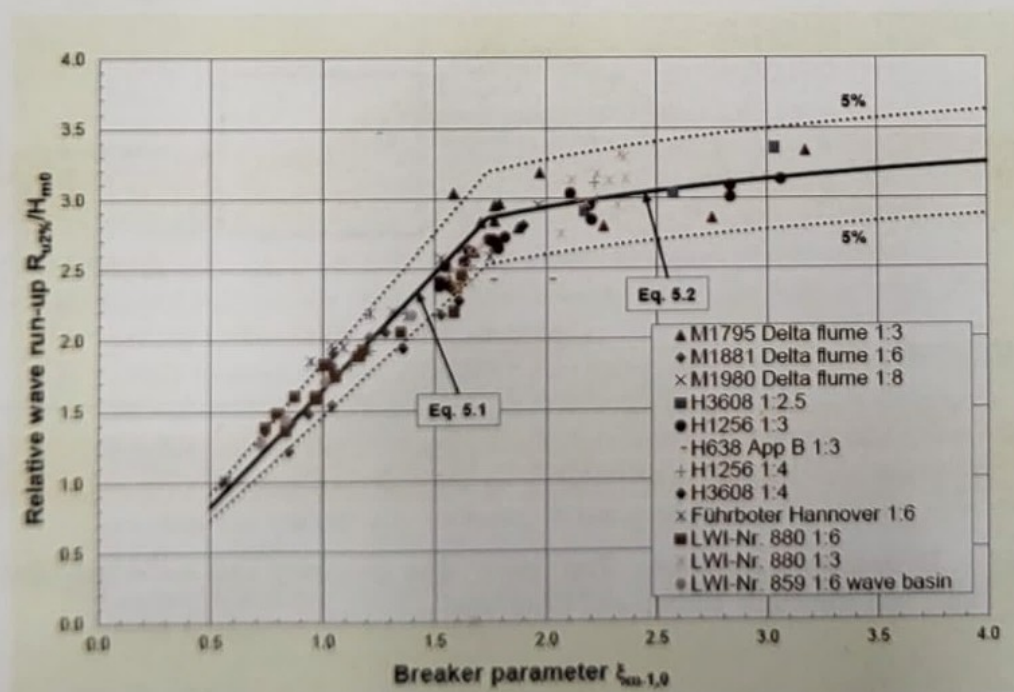

Figure 5: source EurOtop II (2018)
- 2.6 (4 points) See figure 5 below.